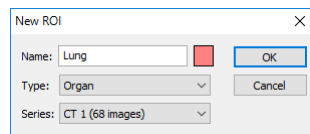

Figure 246 – New ROI dialog
2. The **New ROI** dialog for defining the main properties of the new ROI is then displayed (see Figure 246).